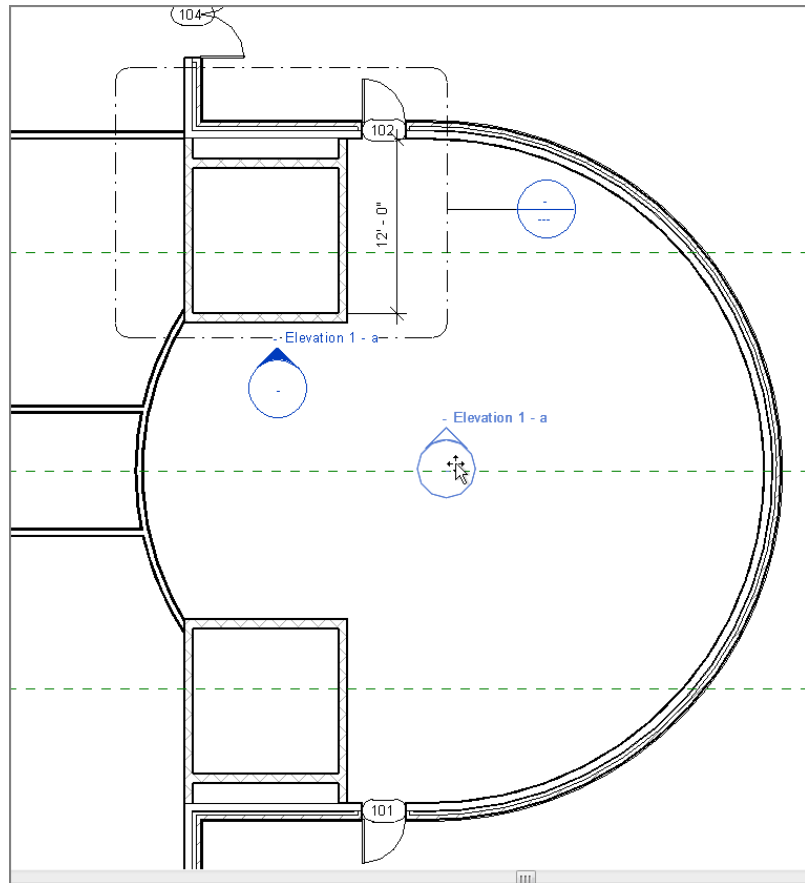

FIGURE 3.81: Add the elevation marker as shown here, and then move it to a new location.
1. Go to Floor Plan Level 1. Zoom into the east wing entry area, as shown in Figure 3.81.
3. Place an elevation marker in an area similar to the one shown in Figure 3.81, and then move it to the center of the lobby.